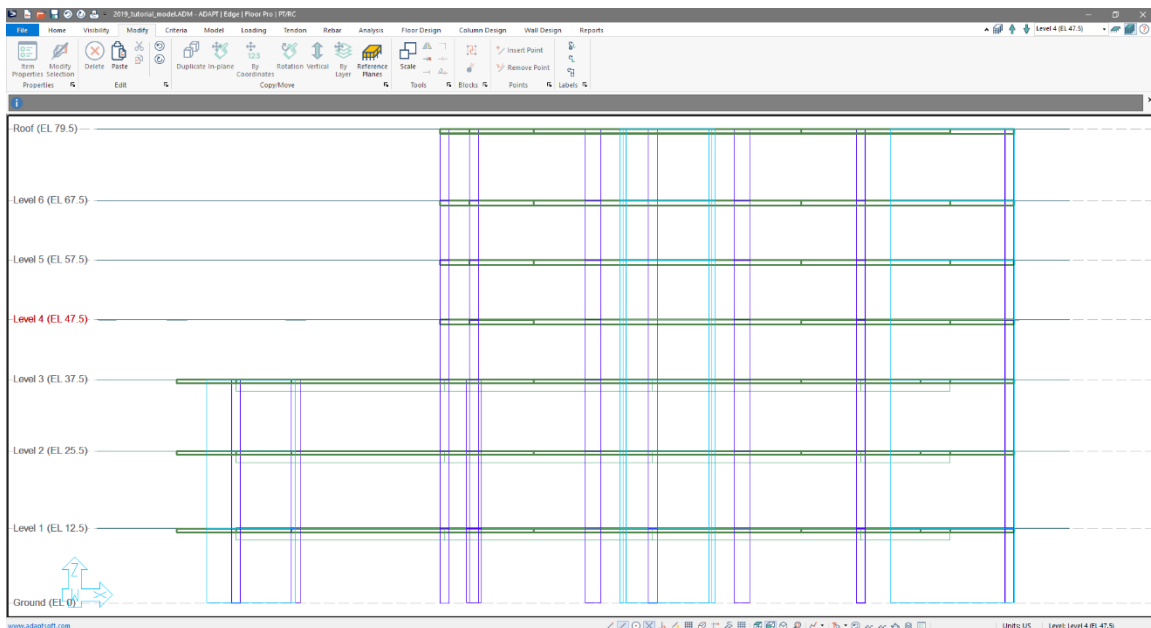

Figure 5-4
- Click on the *Front View*  icon in the **Lower Quick Access Toolbar**. This will bring you to the view of the model shown in **FIGURE 5-4**.